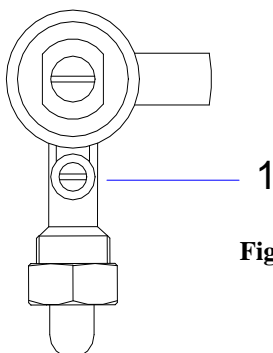

Fig. 8
- Put a screwdriver through the hole in the control panel and loosen the screw (1) **Fig. 8** in a clockwise direction to reduce the minimum or anticlockwise to increase the minimum.